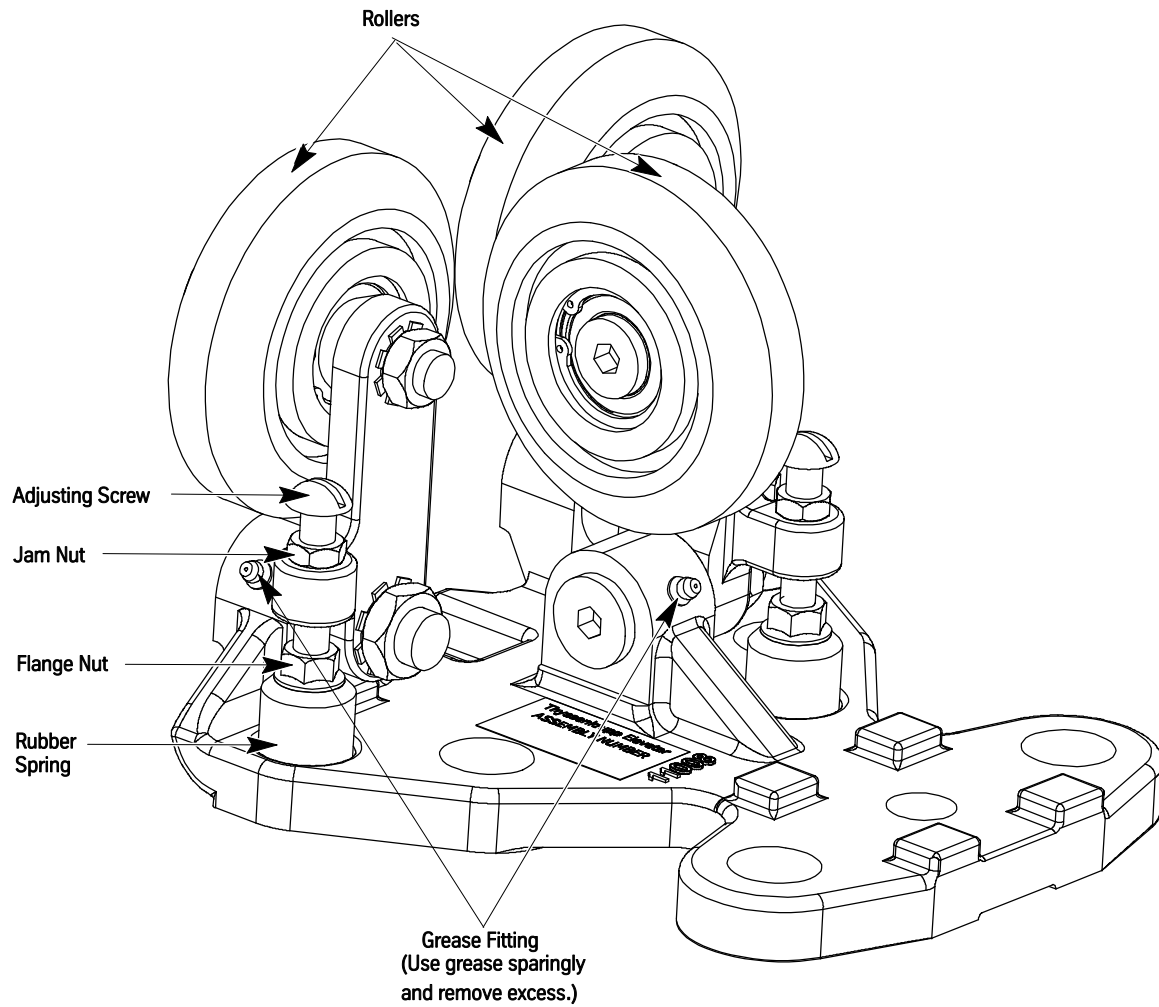

Figure 13 - 4-Inch Roller Guide Assembly 67960
2. Back off all adjusting screws and flange nuts until the roller arms lean away from the safety slot in the base. For this step and all remaining steps in this procedure, See Figure 13.
5. Back off the screw two (2) turns and lock it with the jam nut.
6. Hold each side roller in contact with the rail and turn the screw until it bottoms out lightly on the base. Back the screw off one (1) turn and lock it with the jam nut.